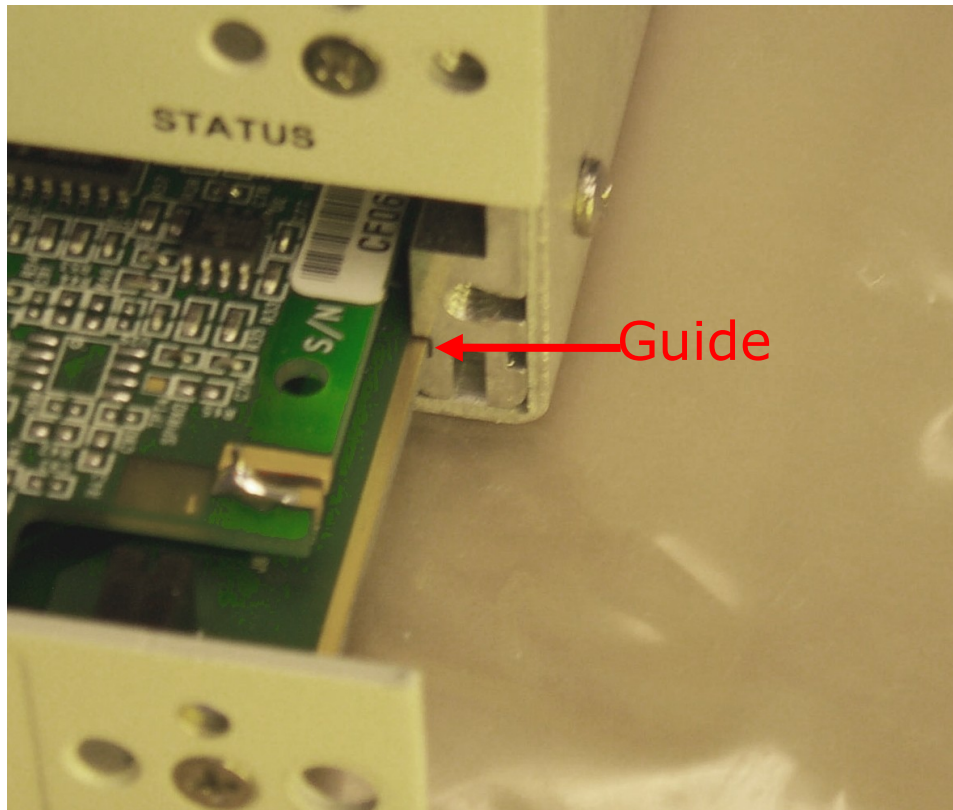

Figure 3-25. Guides
2. Line up the module board with the guides in the chassis and slide the module into the SDIDU™. Figure 3-25 shows a photo of the guides. As the module face plate comes flush with the face of the SDIDU™, connectors on the rear of the module will engage with the SDIDU™ backplane. It is possible to encounter interference from adjacent module rear panels. If this occurs, loosen the thumbscrews holding the neighboring panels and shift them as necessary to ensure fit.